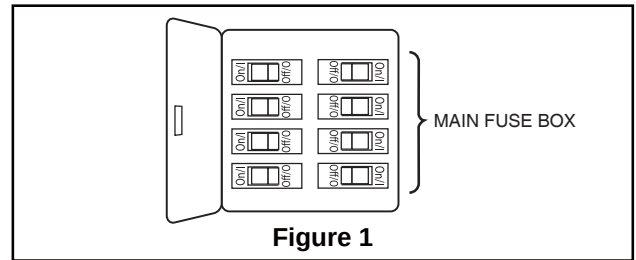

Figure 1
To avoid possible fire or shock, be sure electricity is turned off at the main fuse box before hanging. (Figure 1)
To avoid possible electrical shock, be sure electricity is turned off at the main fuse box before hanging (Figure 1).
- ☐ 1. Remove one of the two shoulder screws in the hanger bracket. Loosen the second shoulder screw without fully removing it. Assemble canopy by rotating key slot in canopy over shoulder screw in hanger bracket. Tighten shoulder screw. Fully assemble and tighten second shoulder screw that was previously removed. (Figure 1)